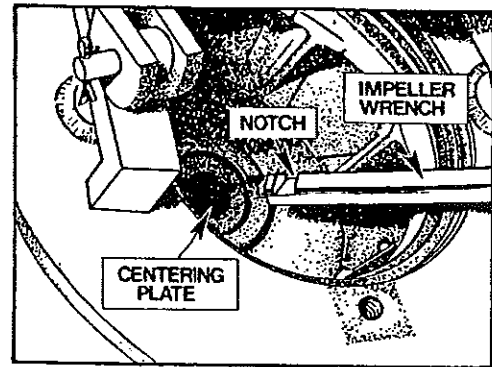

Figure 3. Engage Plate and Remove.
- f. Insert notched end of impeller wrench into hole in centering plate. Engage plate and remove. (FIG. 3).